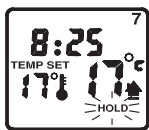

Figure 15
- By simply pressing the button, the thermostat will place into hold mode, and then the LCD display will appear the HOLD icon. (see Fig. 15)